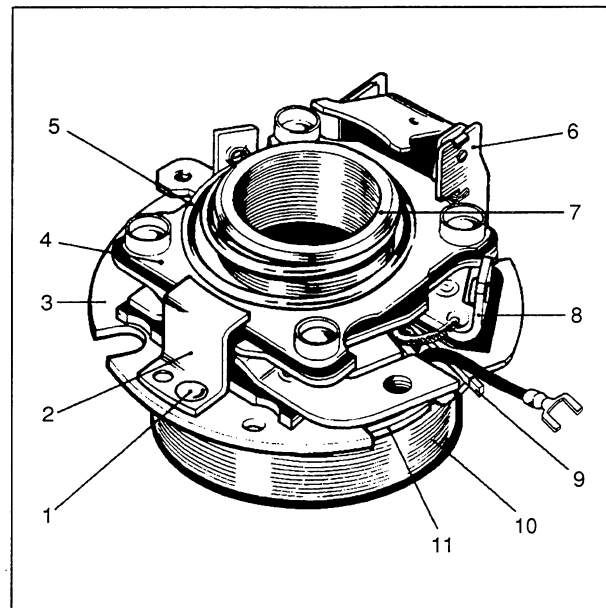

Fig. 8 Solenoid switch
Component numbers refer to Fig. 8 except where stated.
3.2 SOLENOID SWITCH (See fig. 8)